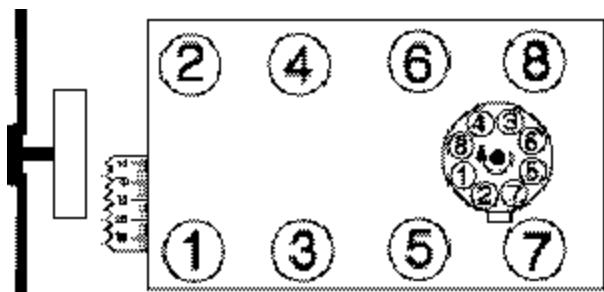

Figure 2 - 454 c.i.d. Chevrolet Firing Order
- FIRING ORDER AND CYLINDER NUMBERING: For cylinder numbering and firing order, see Figure 2.